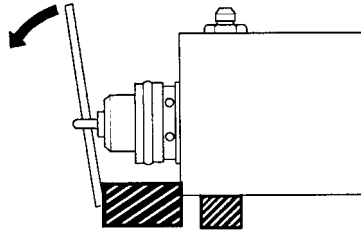

Figure 15. Removing the piston.
- It may be useful to use a pry bar as a lever as shown in Figure 15. Be careful to not damage the piston.